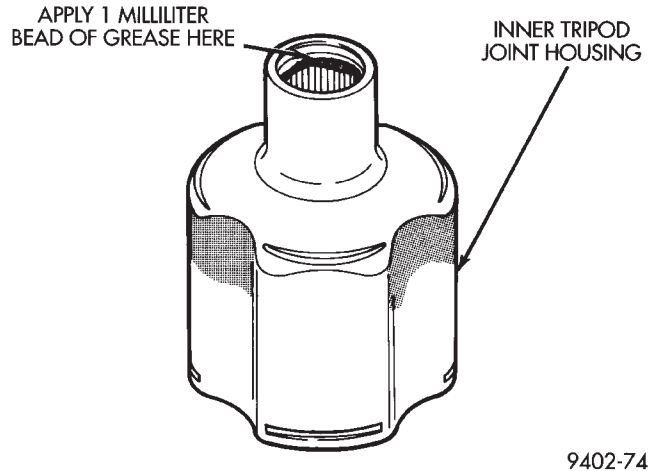

Fig. 13 Grease Applied To Inner Tripod Joint Housing Spline
(2) Evenly apply a bead of grease, such as Mopar Multi-Purpose Lubricant or an equivalent, around spline of inner tripod joint (Fig. 13) where the O-ring seats against tripod joint. This will spread grease onto stub shaft during tripod joint installation preventing corrosion and help to seal the O-ring.
(3) Install driveshaft through hole in splash shield. Grasp inner tripod joint in one hand and intercon-